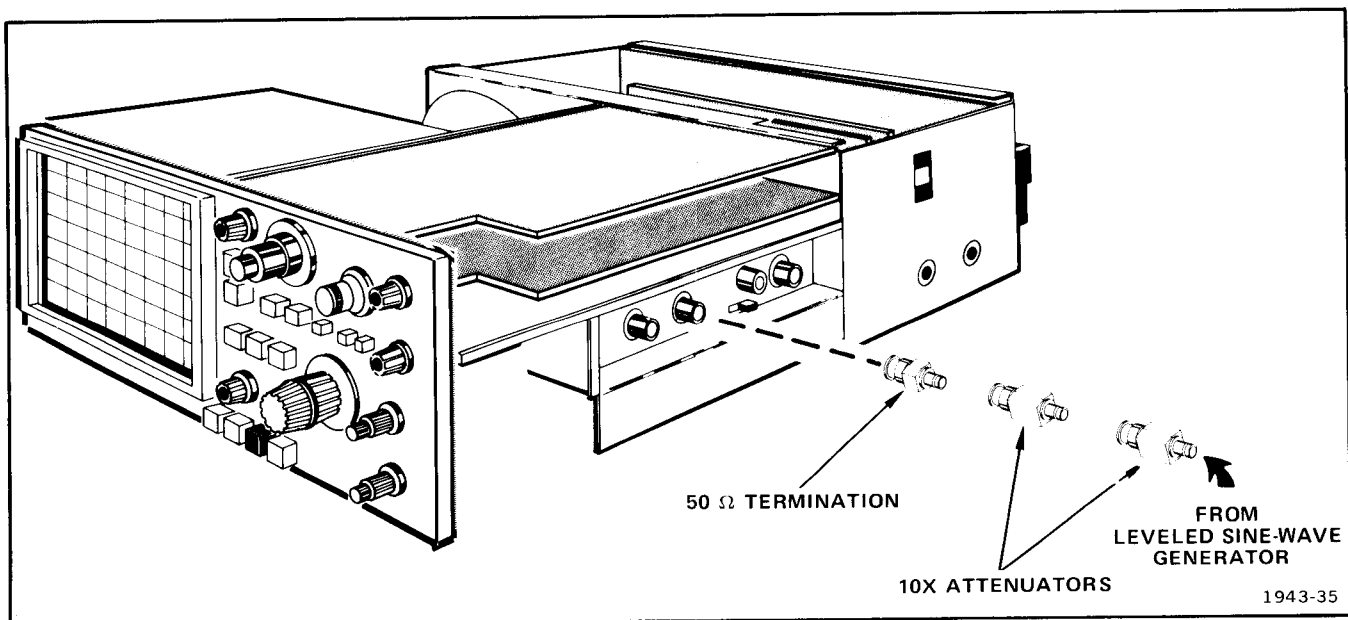

Fig. 6-11. Equipment setup.
a. Connect test equipment to CH 2 VERT INPUT connector as shown in Fig. 6-11. Add or remove attenuators as needed to maintain 6 division reference display.